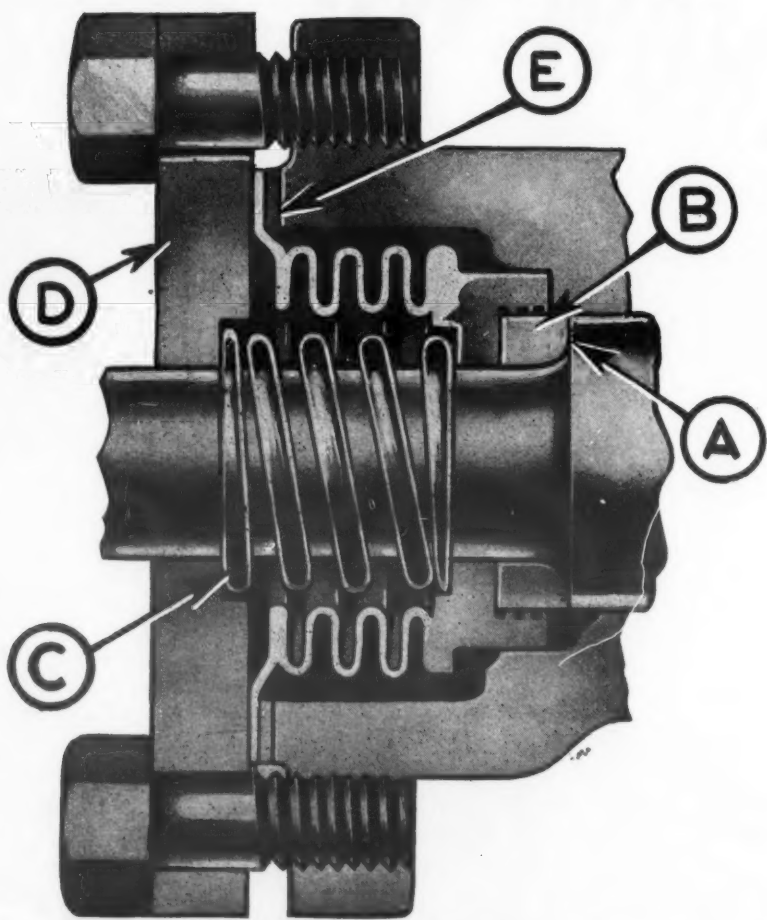

Fig. 17. Frigidaire stuffing box seal assembly. (A) Eccentric shaft shoulder; (B) bronze thrust collar or seal nose; (C) spring; (D) retainer plate; (E) gasket.
One of the most common and widely used types of stuffing box assemblies is illustrated in Fig. 17. This design provides a gas tight seal between the revolving shaft and the atmosphere by means of a special bronze thrust collar or seal nose (B) which is held tightly against a shoulder on the crank or eccentric shaft (A) by means of spring (C).
The same general repairing and replacing instructions apply to this style as the style in Fig. 17. If the seal is found to be leaking it should be removed and carefully inspected for the cause. The seal nose may have worn a deep groove in the shoulder